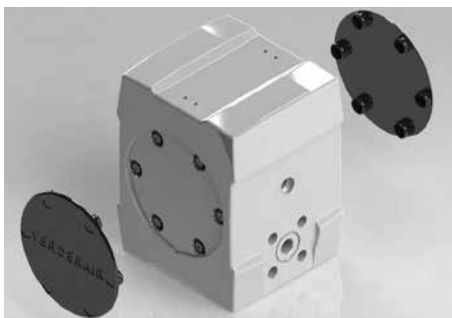

Figure 20
Put the washers and the spring washers on the assembly pins and put the bolts on. Fasten the bolts crosswise up to the torque values as mentioned on page 25. Push the side housings caps (08) on the side housings (see Figure 20).